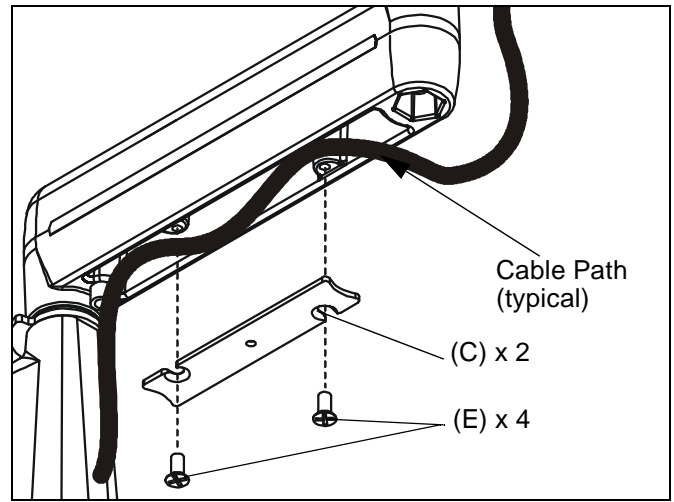

Figure 9:
3. Using Phillips screwdriver, install cover (C) with two screws (E). (See Figure 9)
2. Carefully insert cables in cavity located in lower portion of mount arm (See Figure 9).